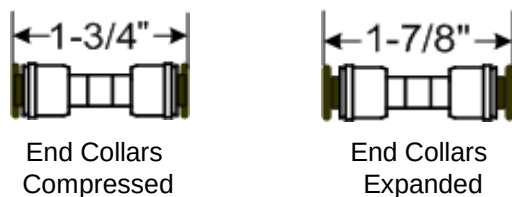

Figure 2
5.3 A Tube Coupling is about 2" long. **See Fig. 2.**